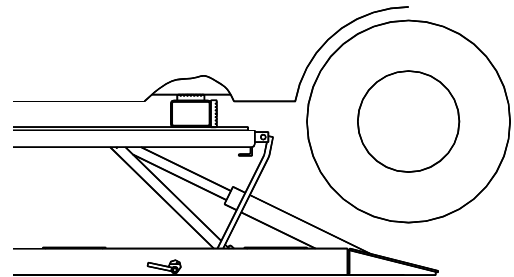

Fig. 8 Optional Spacer Pads
- D. Use optional 4 3/4" and 6 3/4" spacer pads if additional height between lift and vehicle is required to clear underbody parts as shown in **Fig. 8**.